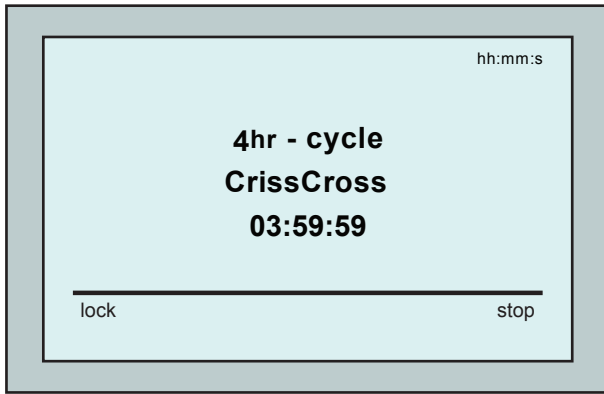

Figure 4: Countdown screen for 4 hour session
**TIP** To avoid unauthorized changes to the MMI settings you can lock the MMI's keyboard: From the *Countdown* screen, press **Lock** (Figure 4). To unlock the keyboard, press **POOL** and then **HOME** in that order.
- From the *Countdown* screen (Figure 4), press **Stop**. The MMI screen displays the message: "Stopping robot – please wait". After 5 seconds the *Manual Stop* screen is displayed (Figure 5).